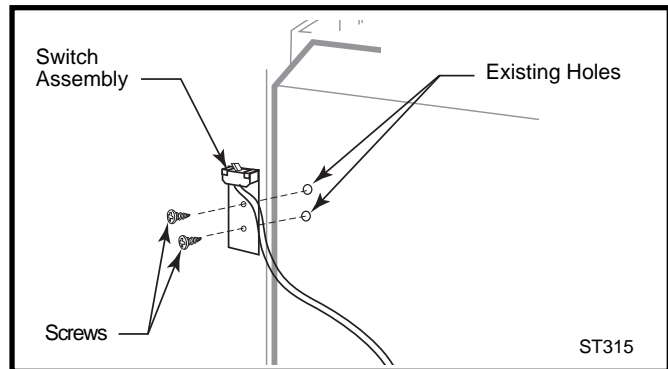

Fig. 12 Attach switch assembly to rear shroud.
1. Attach switch assembly to left rear side of stove shroud using two screws and existing holes in shroud. (Fig. 12)